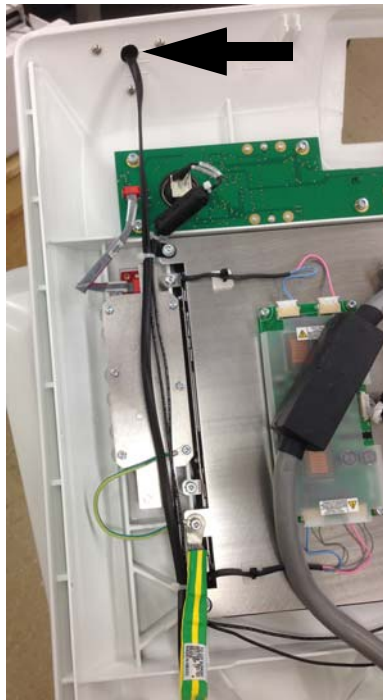

Figure 2-15 Attach Receiver/Mount assembly to top cover
15. Attach the Receiver/Mount assembly to the top cover using the 3 self-tapping screws provided in the kit. See Figure 2-15. Do not over-tighten the screws.